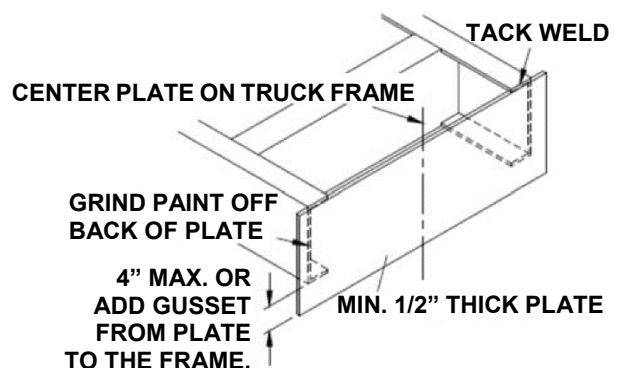

Figure 10
- The plate needs to be a minimum of 1/2" thick and wider than 36" (Figure 10).